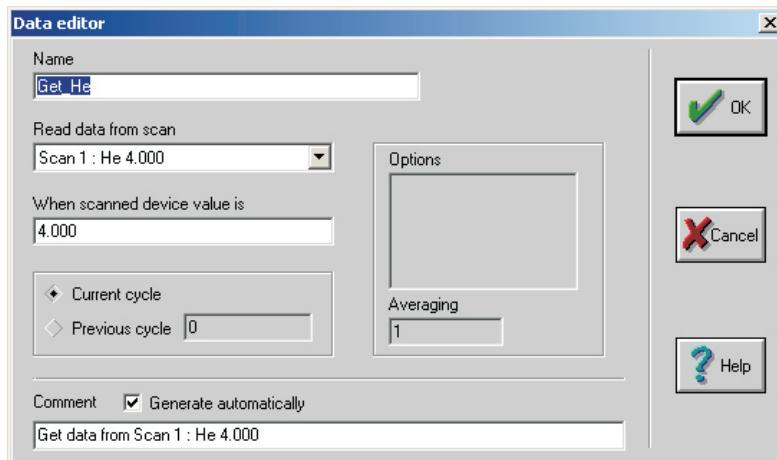

Figure 60 Data editor, helium reading
42. Select **Scan 1 He 4.000** from the **Read data from scan** drop down list box. See Figure 60.